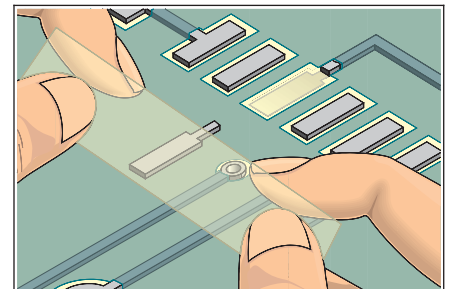

Figure 4 Position pad using tape.
11. Place a piece of Polyimide tape over the top surface of the new pad. Place the new pad into position on the printed wiring board surface using the tape to help in alignment. (See Figure 4.)